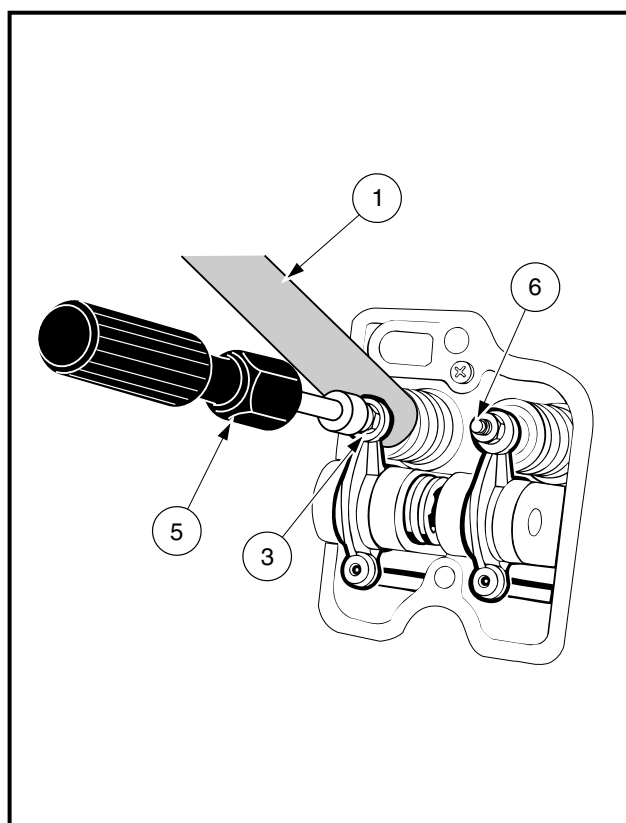
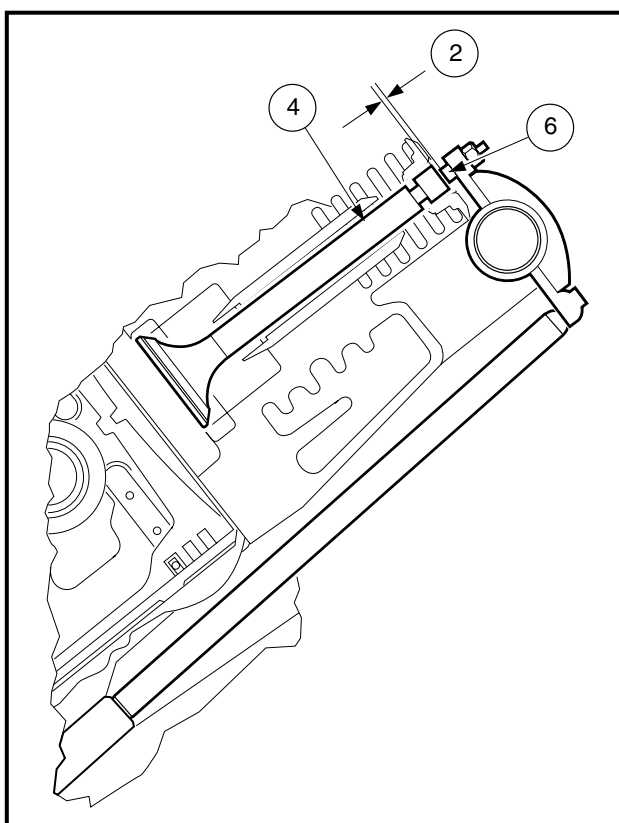

Figure 2-34 Valve Clearance
Figure 2-35 Cutaway View of Valve Clearance
2. Use a feeler gauge (1) to measure the clearance (2) between the adjuster screw (3) and the top of the valve stem (4) (**Figure 2-34, Page 2-18 and Figure 2-35, Page 2-18**).
3. If necessary, loosen the locknut (3) and turn the adjuster (6) up or down to adjust the clearance to 0.005 inch (0.127 mm) for both intake and exhaust (**Figure 2-34, Page 2-18**).
4. Keep the adjuster from turning with the screw holder (5) (CCI P/N 1016413) and tighten the locknut (3) to 90 in-lb (10 N·m) (**Figure 2-34, Page 2-18**).